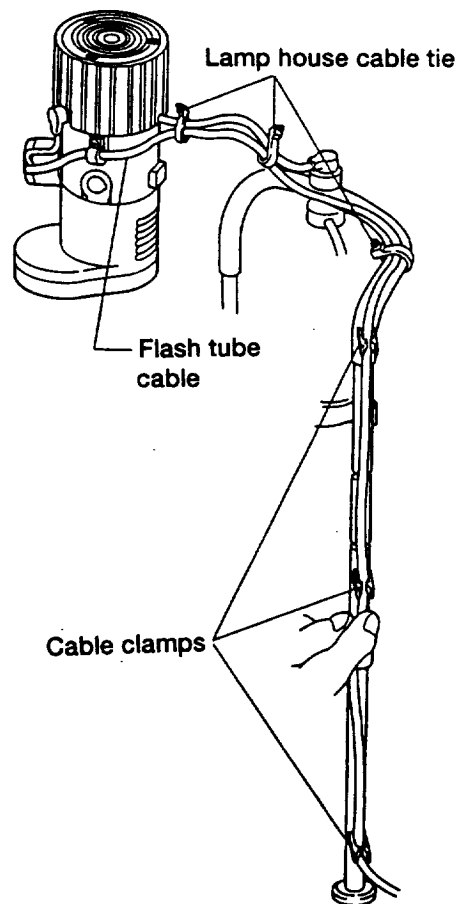

Figure 20-2
- (2) Pull out (two) flash tube caps.
- (3) Insert the flash tube fully into the main unit from the slot on the examiner side as shown in Figure 20-2.
- (4) Plug the synchro cable into the flash tube synchro connector. Secure the flash tube cable on the side surface below the lamp house with a cable clamp (using a Phillips screwdriver). Bundle the cable from the lamp house and flash tube cable with the attached cable tie (the flash tube movement may be hampered if the cables are laid too tight).